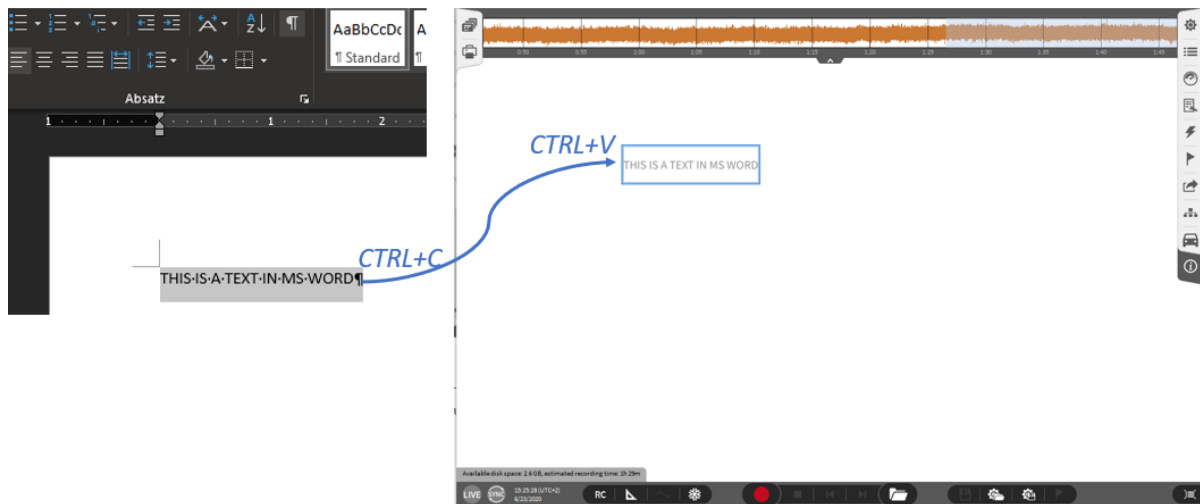

Fig. 8.34: Pasting a text to the measurement screen
**Note:** A text can also be copied and pasted directly to the OXYGEN measurement screen (see Fig. 8.34).